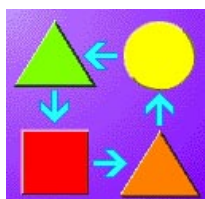

Figure 3-18
2. From the Preference menu select the **"USER INTERACTION"** icon. (Figure 3-18)